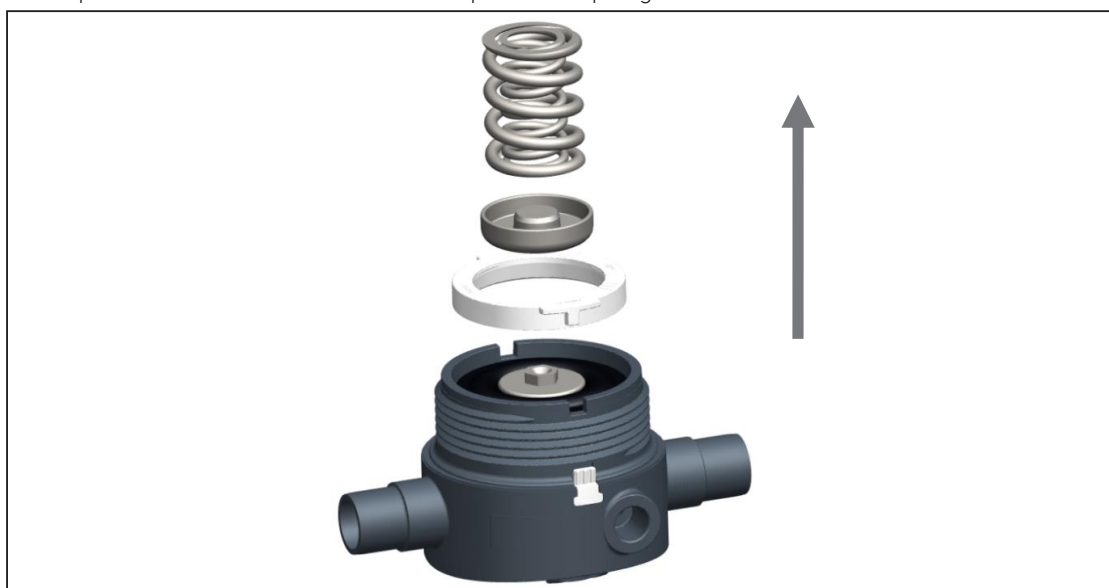

Fig. 8
- ▶ Remove Pressure piece, springs and retaining ring, see Fig. 8